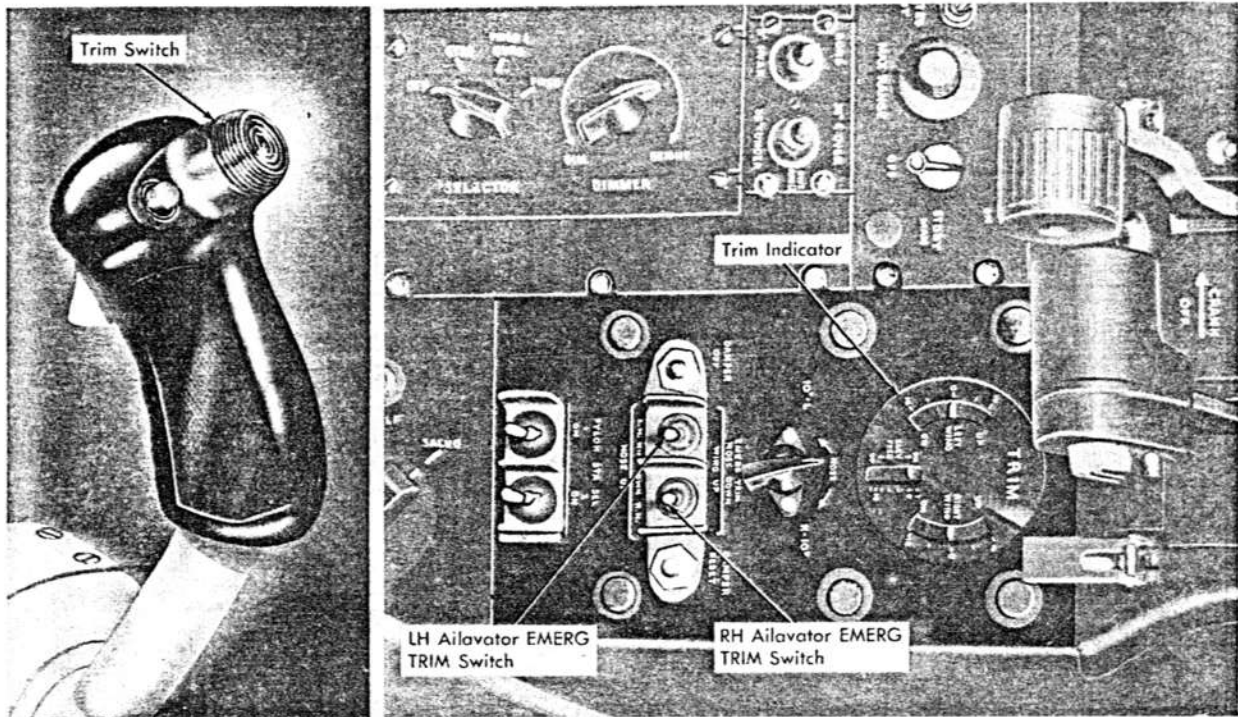

Figure 1-18. Ailavator Control and Trim System Controls
**CONTROL STICK.** The conventional control stick (figure 1-18) is used to control the aileron and elevator functions of the ailavator. It operates the same as that used in airplanes with conventional ailerons and elevators. Three switches are mounted in the control stick handgrip: ailavator trim, bombs and rockets, and gun trigger. The pilot's relief tube is also attached to the control stick.